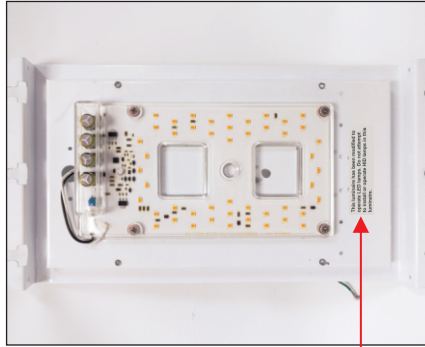

Figure 5
5. Place the provided Retrofit Label (E) on the outer areas of the luminaire where DirectAC Engine (A) was just installed. Label must be clearly visible and should not be obscured by line voltage cables. See figure 5.
6. Completed assembly should look like figure 5.